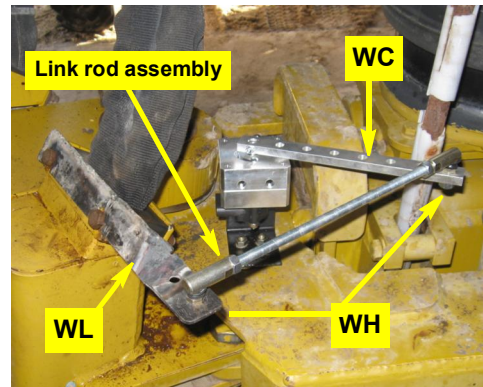

Figure 2e: Installed WAS link rod assembly
- e. Using hardware **WH**, install the link rod assembly from step 1 between the last hole in WAS arm **WC** and bracket **WL**. Set the swivel studs downward at both ends (Figure 2e). Leave swivel nuts **WH** loose.